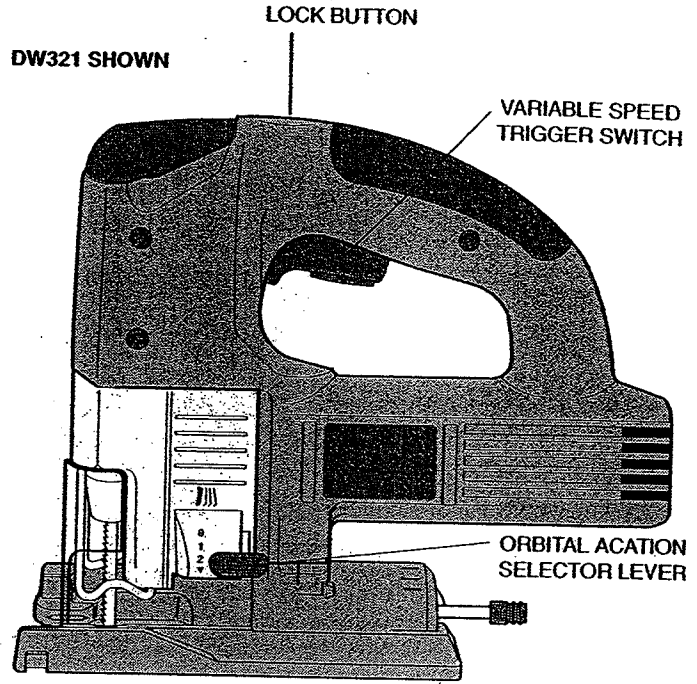

FIG. 1 DW321 B
**Variable Speed Switch (Fig. 1)**